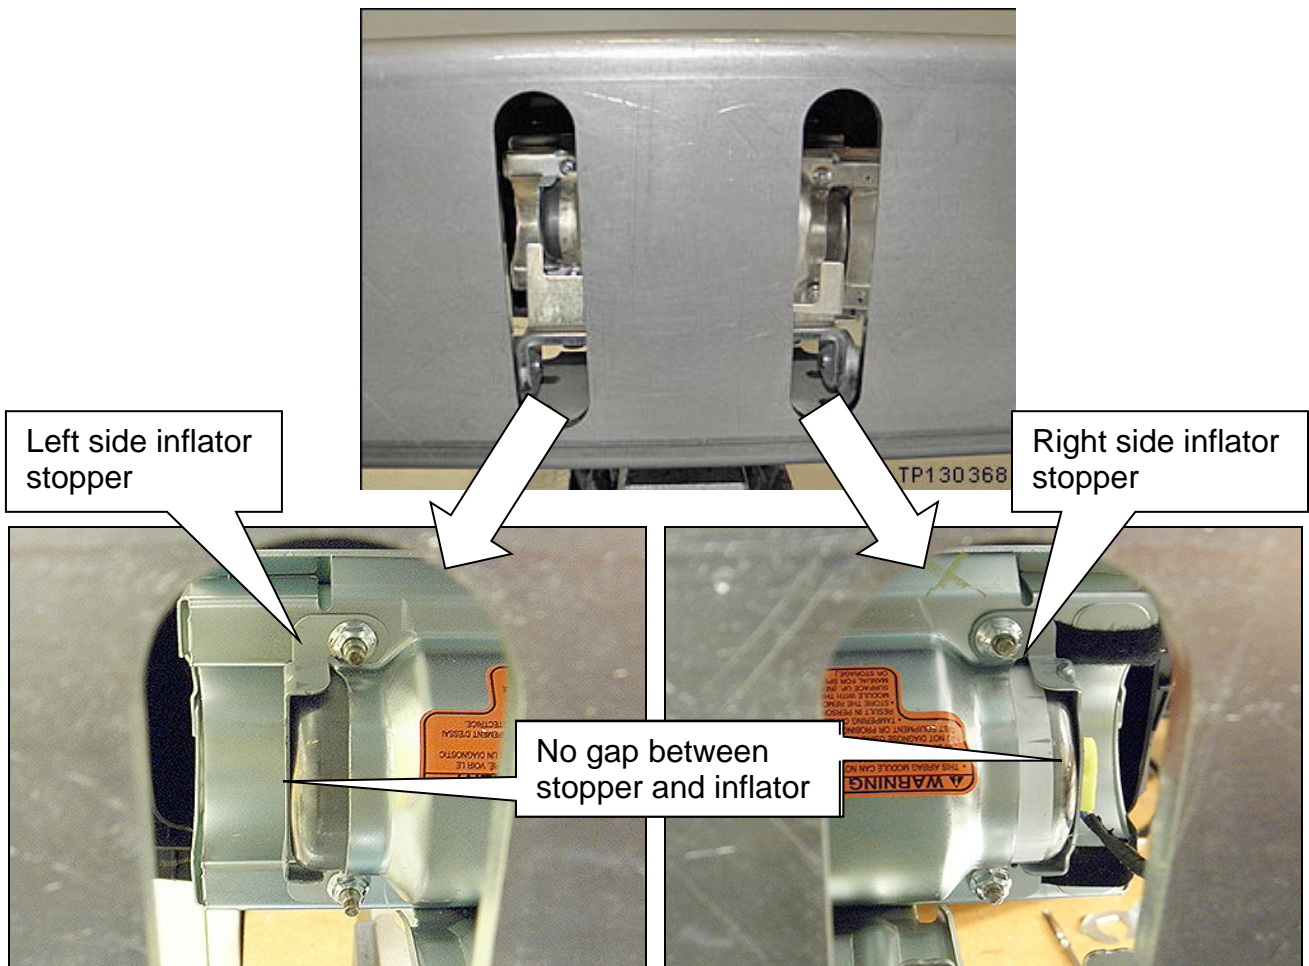

Figure S19
21. Install the left side inflator stopper and 2 inflator securing nuts finger tight (see Figure S19).
22. Make sure the inflator is pushed all the way into its housing (see Figure S19).
23. Make sure there is no gap between the inflator stoppers and the inflator (see Figure S19).